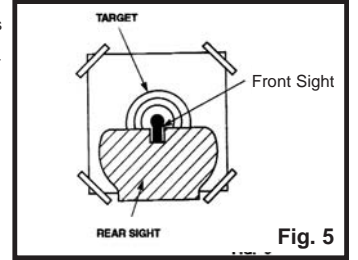

Fig. 5
- The airgun is correctly aimed when the front sight blade is positioned exactly in the center of the notch of the rear sight. The top of the front sight blade should be even with the top of the notch in the rear sight. The bulls-eye should appear to rest on the top of the front sight. (Fig. 5)